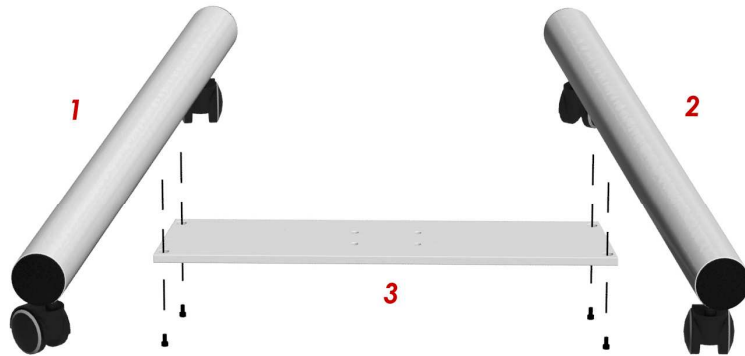

Fig. 13
- ✓ The first procedure to be carried out is to assemble the carriage **(A)**, this is done by mounting the two tubular "1" and "2" on the base "3" using four screws 8x20, as shown in fig. 13